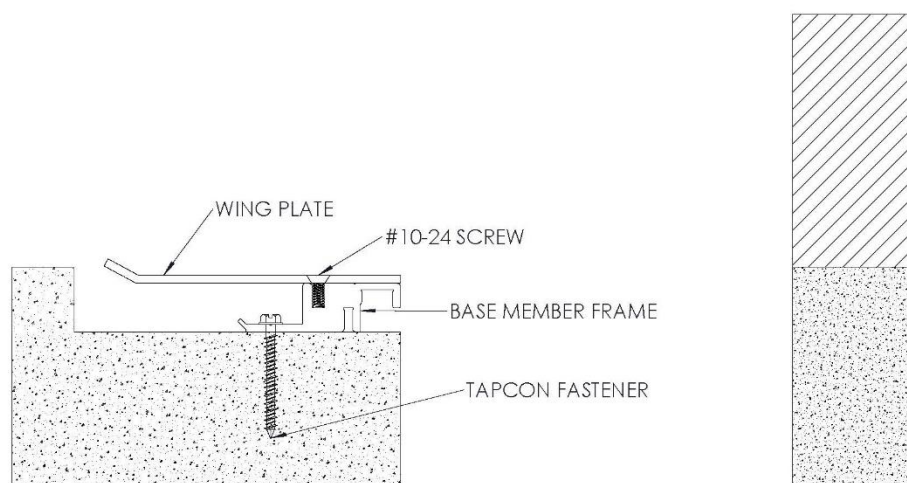

FIGURE 10
3. Reinstall the wing plate to the base member frame with the #10-24 screw. *Note: This step not necessary on the 2" & 4" sizes.* **See Figure 10**